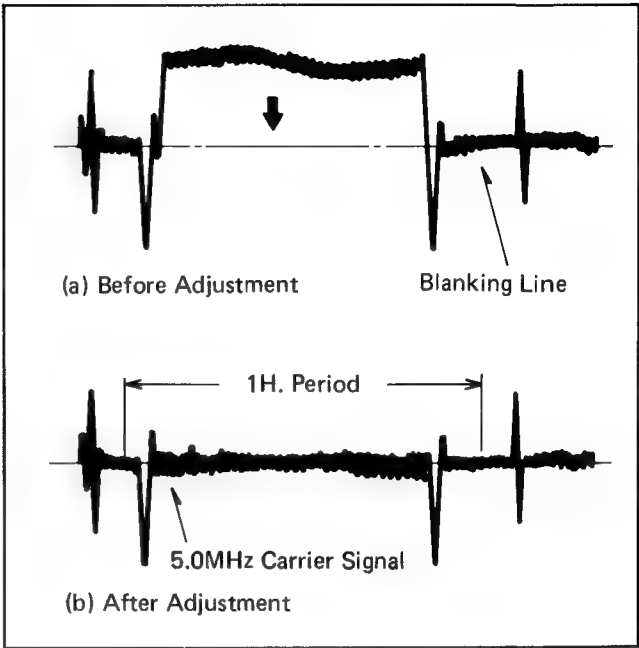

Fig. 24 Waveform of Proper Adjustment
6. Now, adjust the horizontal size control VR615, so that the signal is centered on the blanking line, as shown in Fig. 24.